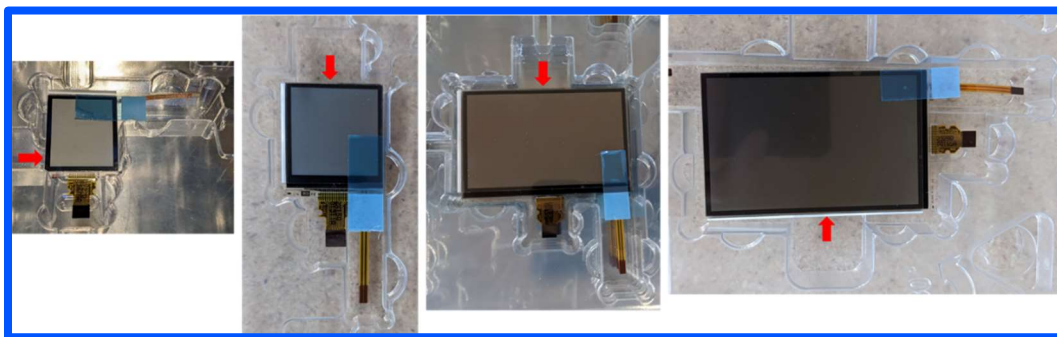

Figure 10. Image of typical packaging tray (1.26", 1.8", 2.7", 3.2") showing finger slot location.
- a. Lift Azumo LCD 2.0 product at finger slot (refer to Figure 10).